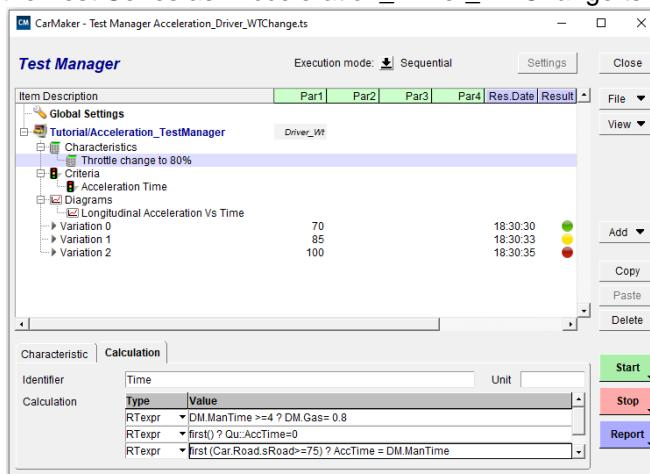

Figure 6.17: Defining Characteristics
You can create a variable in the *Maneuver* tab of the TestRun using Mini-maneuver Commands in the CarMaker GUI or by defining *Characteristics* (*Add > Characteristic*, see Figure 6.17) for the respective TestRun in the TestManager.
- 6.4.3.6.2 Add the condition for 80% gas after 4 seconds as shown in **Figure 6.17**.